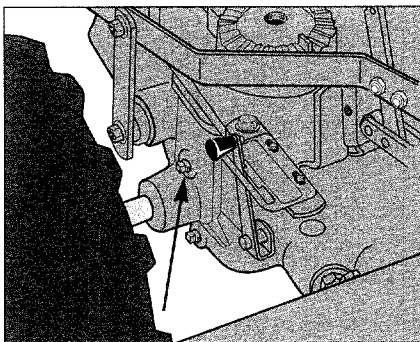

Figure 5-7: Remove oil level check plug. Gear oil should seep out if the level is sufficient.
2. Use a 3/8" wrench to remove the oil level check plug on the left side of the transmission housing (refer to Figure 5-7).
the left side of the transmission (Figure 5-7).
2. Remove the oil level check plug (see Figure 5-7) with a 3/8" wrench. This vents the transmission for faster oil draining.